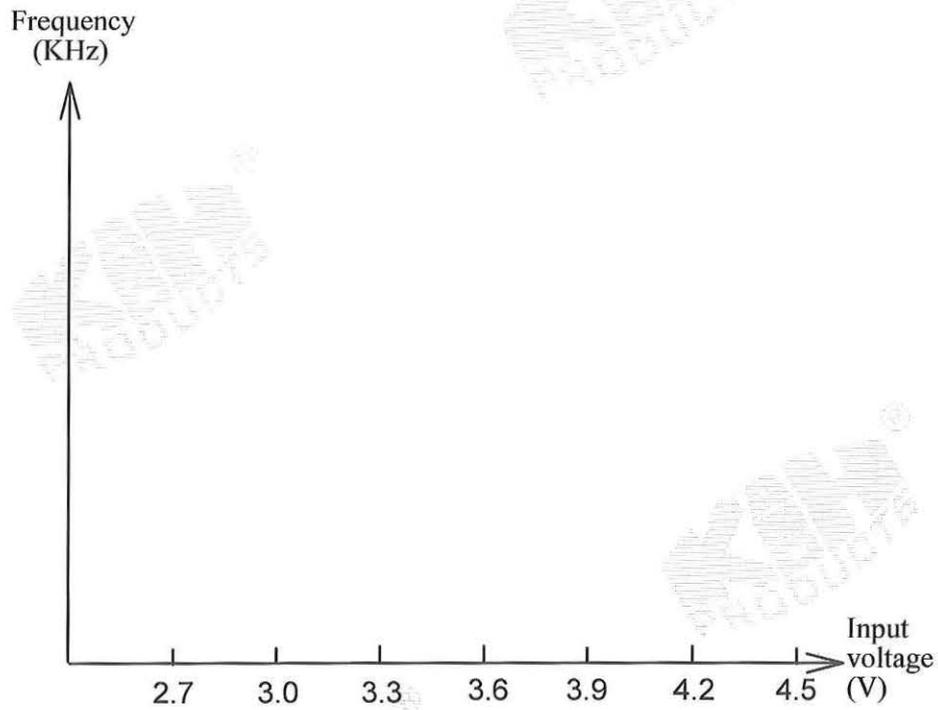

Fig.7-8
8. Using the results of Table 7-4, plot the frequency vs. voltage curve in Fig. 7-8.